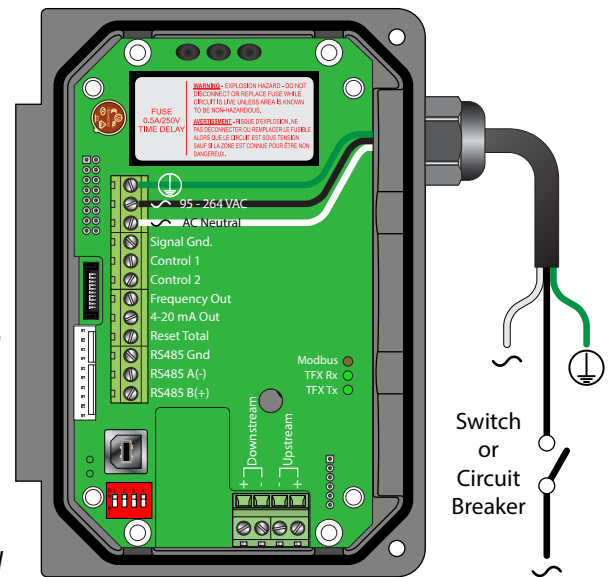
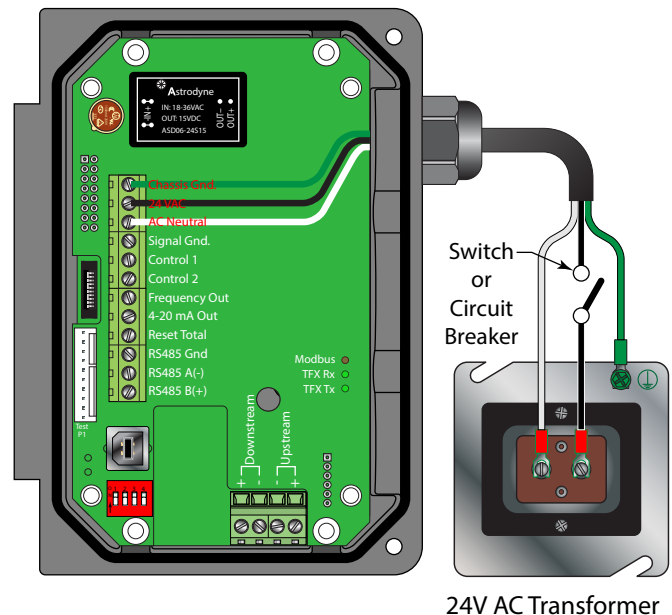

Figure 4: Line voltage AC power connections
Figure 5: Low voltage AC power connections
5. Connect power to the screw terminal block in the transmitter using the conduit hole on the right side of the enclosure. See *Figure 4* and *Figure 5*. Use wiring practices that conform to local and national codes such as The National Electrical Code Handbook in the U.S.
Connect 95...264V AC, AC neutral and chassis ground to the terminals shown in *Figure 4*. Do not operate without an earth (chassis) ground connection.
Connect 20...28V AC, AC neutral and chassis ground to the terminals shown in *Figure 5*.